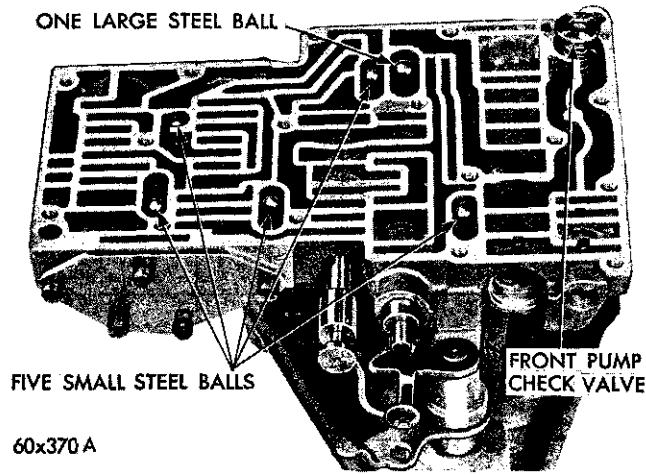

Fig. 58—Front Pump Check Valve and Steel Ball Location
(7) Remove the reverse blocker valve cover and lift out the spring and valve.
(8) Note location of the six steel balls in the valve body, one of them is larger than the other five and is in the larger chamber (Fig. 58). Remove the steel balls, front pump check valve and spring.
(9) Invert the valve body and lay it on a clean cloth or paper. Remove E-clip from the throttle lever
(11) Position the valve body assembly on the repair stand.
(12) Place the six steel balls in the valve body chambers with the large ball in the large chamber (Fig. 58). Place the front pump check valve and spring in the valve body.
(13) Position the transfer plate assembly on the valve body. Hold the front pump check valve in its